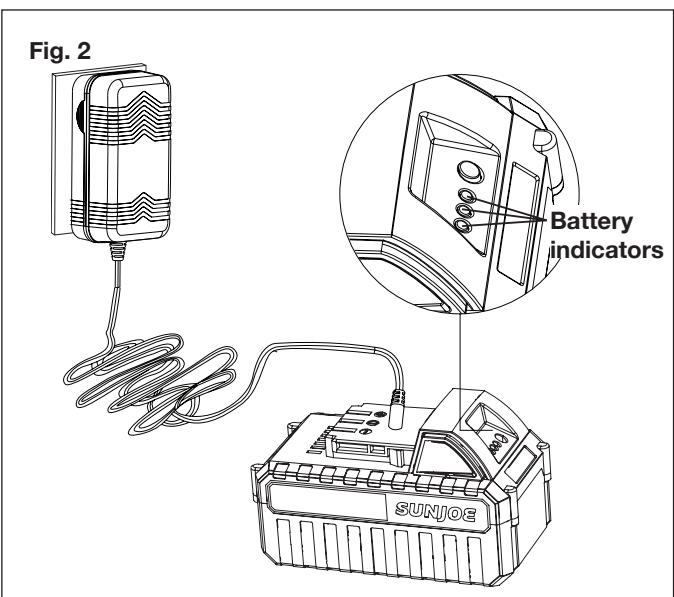

Fig. 2
- Check that the mains voltage is the same as that marked on the rating plate of the battery charger. Then, plug the charger adapter into an appropriate AC power outlet. Connect the charger plug into the charge socket of the battery to start charging (Fig. 2).